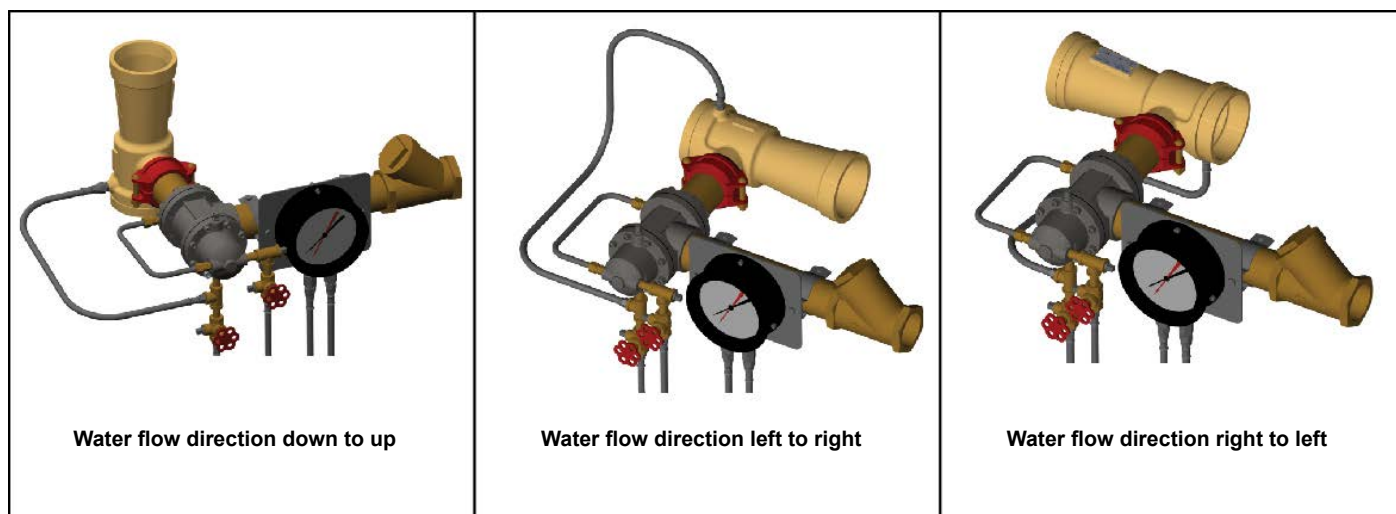

Figure 8.2 - Typical Proportioning Device Orientations
- The balancing spool valve must always lie horizontally (Fig 8.2)